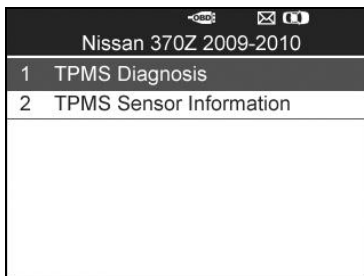

Figure 4.21
- 5) The tool will display a function screen as below. Use the **UP/DOWN** scroll button to select **TPMS Diagnosis** or **TPMS Sensor Information**, and press the **Y** button to continue. (Figure 4.21)